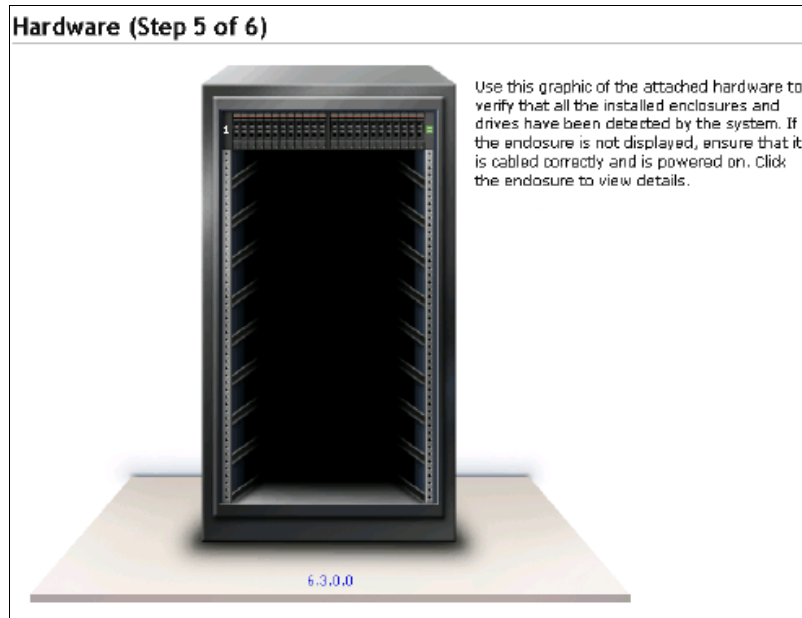

Figure 2-12 IBM Storwize V7000 hardware
6. The next window displays the hardware configuration, as shown in Figure 2-12. Click **Next**.